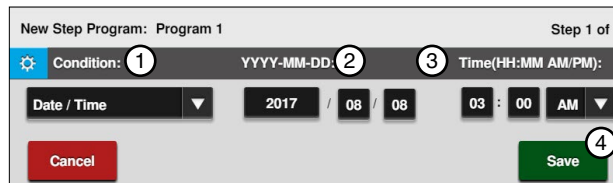

Figure 129-1 1. Date/Time Condition 3. Time
1. Push **Menu**, **Programs**, and **Step Programs** to view the Step Programs screen. Refer to Figure 129-1.